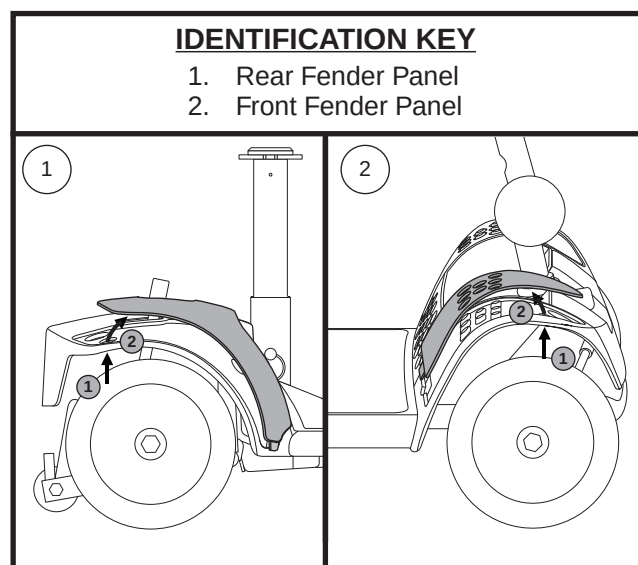

Figure 15. Fender Panels
2. Push through the hole to separate the piece from the Travel Scooter. See **figure 15**.
**NOTE:** When installing the front and rear fender panels, make sure the tab at the bottom of each panel is inserted into the tab opening before securing the panel. See **figure 15**.